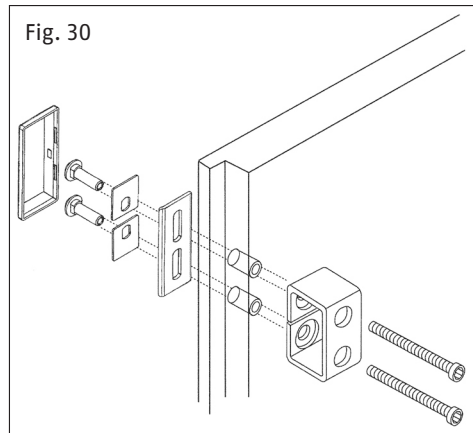

Fig. 30
If the screws or the dowels cannot find a secure grip, we recommend all-through screw fittings with **PV1820** (Fig. 30) or the use of composite mortar from well-known brands in connection with the enclosed screw (without dowel).
2. Insert the threaded sleeve including the metal plates into the screw holes from the outside as shown in the illustration (Fig. 30) and screw it together through the lock casing from the inside (use washers if necessary). Shorten the screws if necessary.